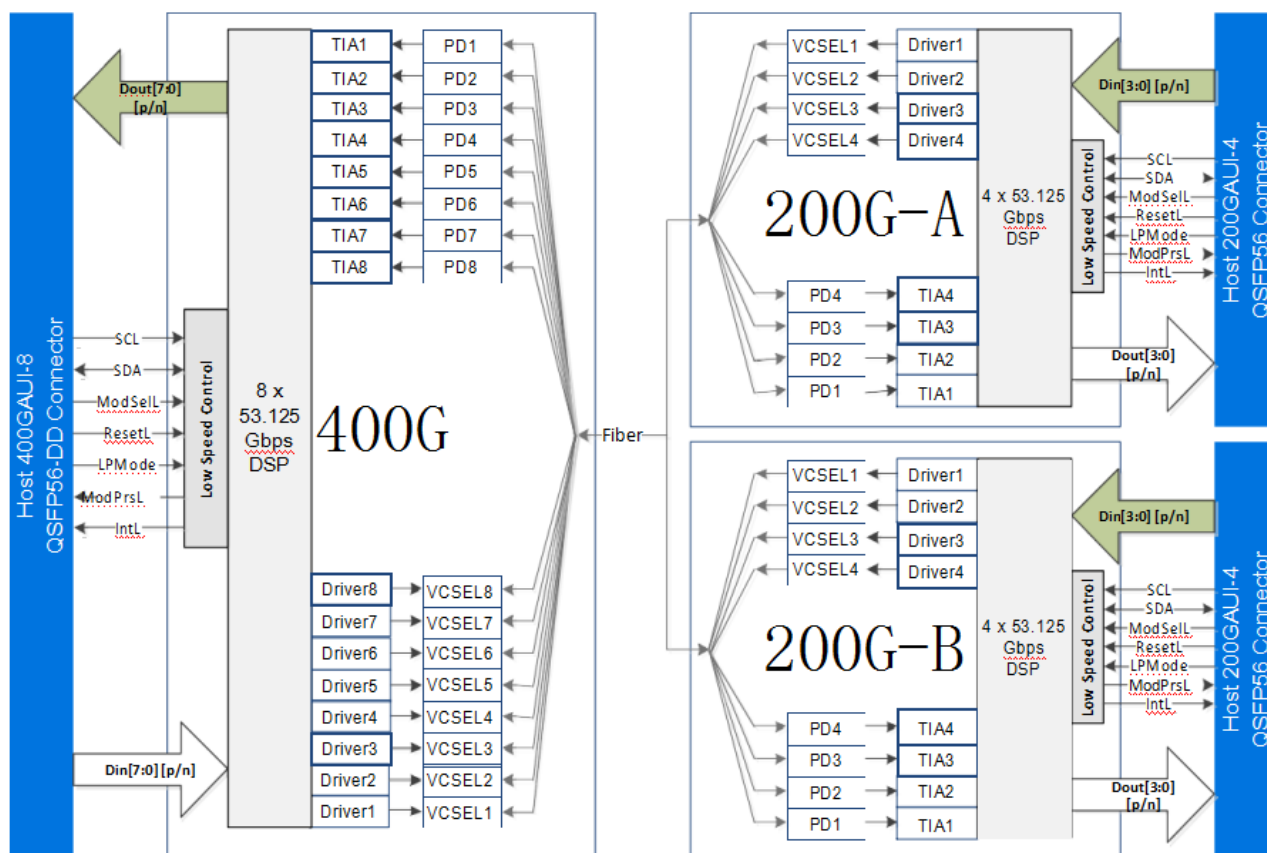

Figure 1: AOC Block Diagram
As shown in Figure 1, the transmitter path of the AOC (QSFP56-DD end) contains an 8x53.125Gbps 400GAUI-8 electrical input with Equalization (EQ) block, two 4-channel laser drivers and multi-mode laser source. And the transmitter path of the AOC (QSFP56 end) contains an 4x53.125Gbps 200GAUI-4 electrical input with Equalization (EQ) block, one 4-channel laser driver and multi-mode laser source.
As shown in Figure 1, the receiver path of the AOC (QSFP56-DD end) contains eight PIN photodiodes, two 4-channel trans-impedance amplifiers (TIA) and integrated 400GAUI-8 compliant electrical output blocks. And the receiver path of the AOC (QSFP56 end) contains four PIN photodiodes, one 4-channel trans-impedance amplifier (TIA) and integrated 200GAUI-4 compliant electrical output block.